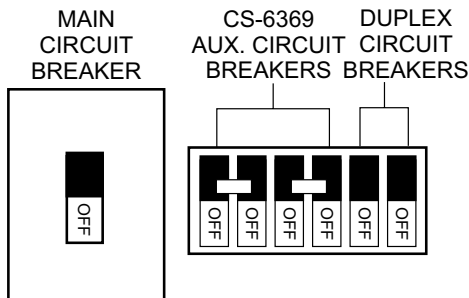

Figure 44. Main, Aux. and GFCI Circuit Breakers (OFF)
1. Place the **main, GFCI, and aux.** circuit breakers (Figure 44) in the **OFF** position prior to starting the engine.